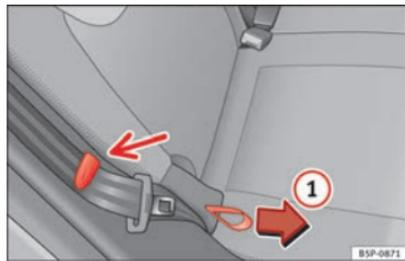

Fig. 92 Folding the rear seat backrests down
- Pull the loop on the side of the seat ⇒ Fig. 92 ①.
When folding or lifting backrests, make sure to place the side seat belts in the trim clip ⇒ Fig. 92 to prevent them from being damaged by becoming trapped in the backrest lock.